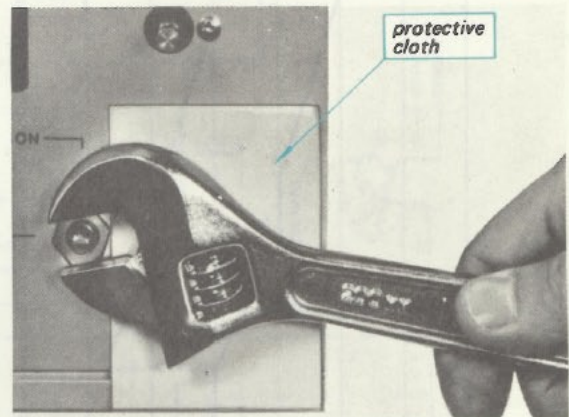
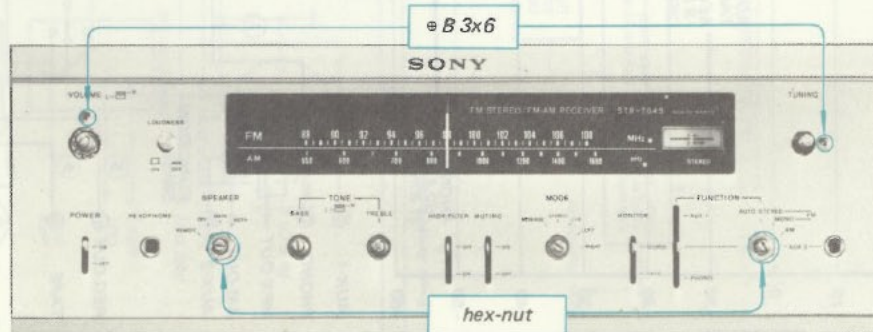

Fig. 2-3. Hex nut removal
Fig. 2-2. Front panel removal
4. Remove the two screws ($\oplus B 3 \times 6$) and two hex-nuts securing the front panel to the front subchassis as shown in Fig. 2-2. When removing the hex-nuts, place a piece of cardboard or cloth between the wrench and front panel to avoid marring the panel as shown in Fig. 2-3. Now the front panel is free for servicing.